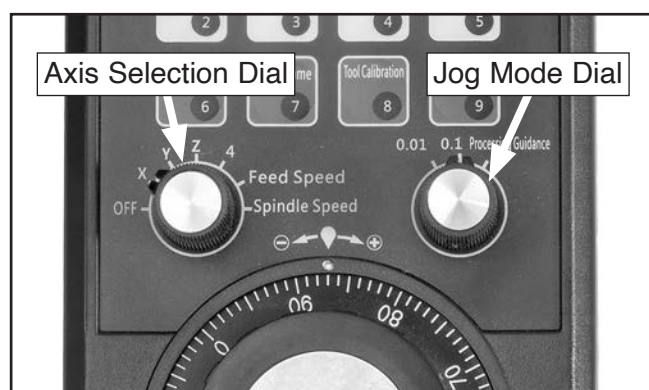

Figure 27. Location of DSP controller axis selection dial and jog mode dial.
2. Rotate axis selection dial (see **Figure 27**) on DSP controller to "Spindle Speed", then rotate jog mode dial to "0.1".